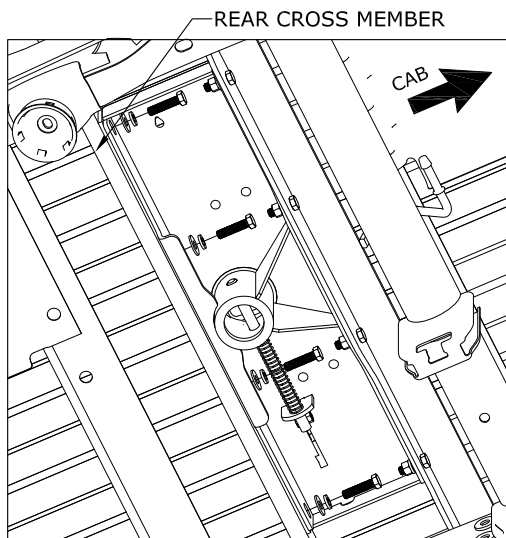

FIGURE B11: View under the center section looking from in front of the axle on the passenger side.
6. **Attach the rear cross member to the center.** Slide the rear cross member up against the center section. Line up the slots in the center with the threaded holes in the cross member. Attach the two members using  $\frac{1}{2}$  x 2" long bolts, flat washers, and lock washers as shown in figure B11. Hand tighten bolts.